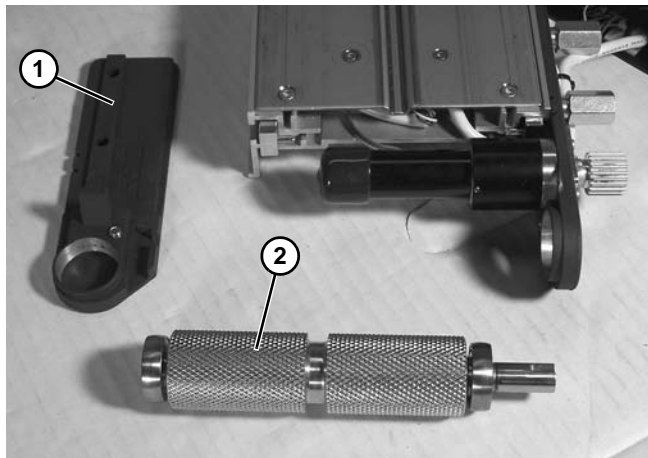

Figure 55
10. Remove head plate (Figure 55, item 1) from frame.
11. Replace spindle (Figure 55, item 2).